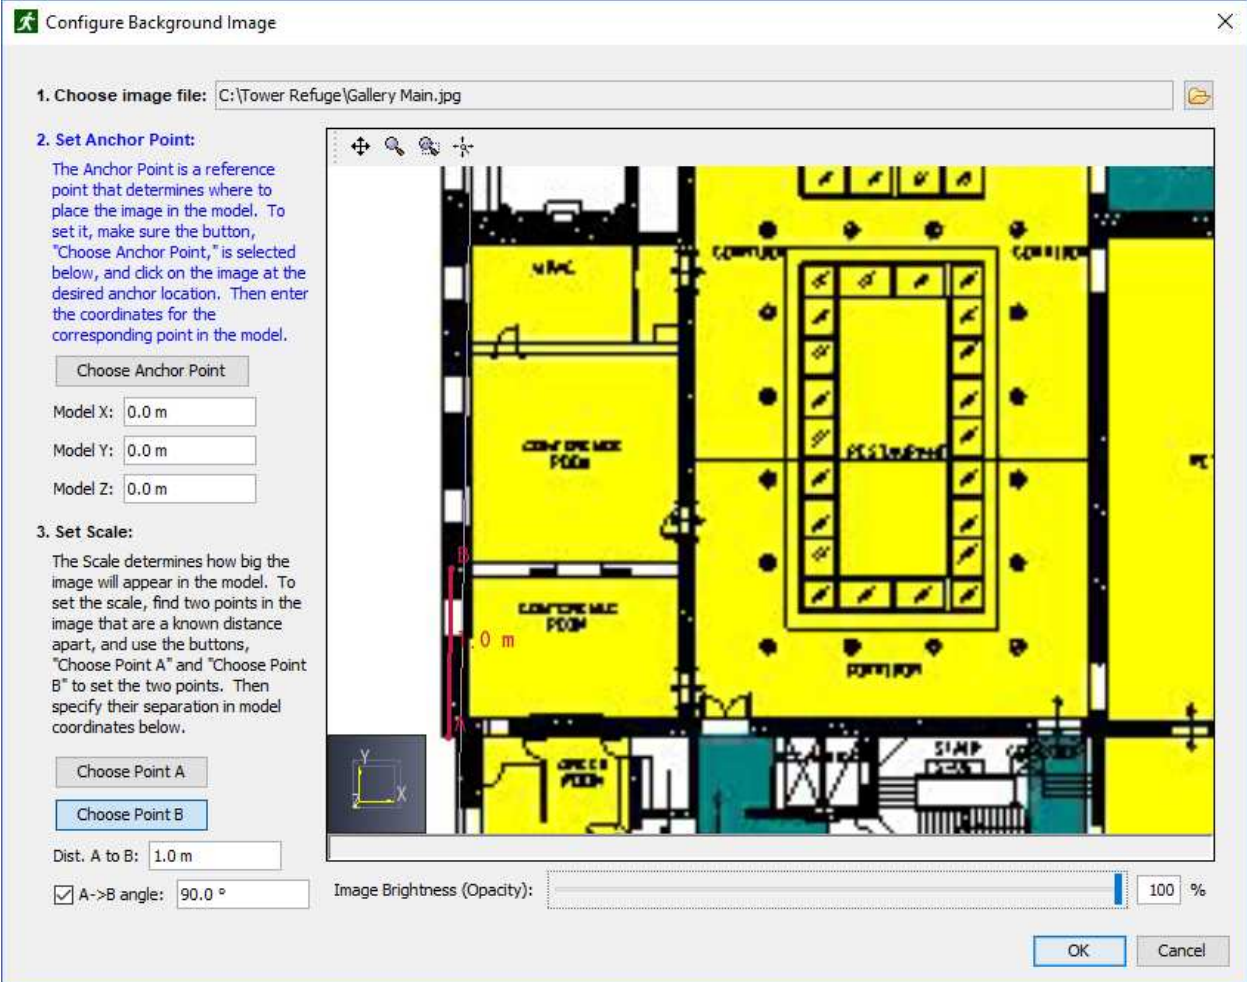

Figure 77. Set scaling points A and B
3. To specify the scaling for the image, two points, A and B, and a distance between them can be specified (Figure 77).